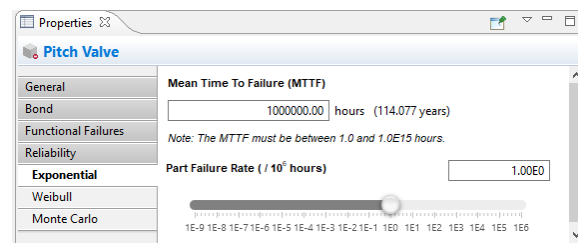
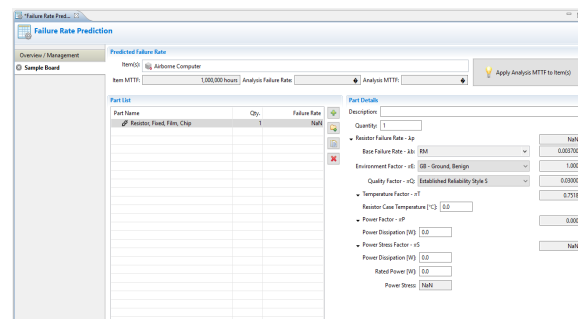

Figure B15: Item properties window for Failure Rate setting
Figure B16: MADE Failure Rate Prediction Window
- 1) Add reliability quantification/distribution parameters to the properties of each element of the model as appropriate using the RMA module's *Reliability* interface (Figure B15). Currently, Exponential, Weibull, and Weibull (unit Life) data can be manually entered, or the "Failure Rate Prediction" option under the "Analyses" menu can be used. The latter requires naming of the analysis, selection of the item, and the addition of a complete parts list for the item/component being evaluated to the *Parts List* section of Figure B16. And when the calculation is completed, the modeler should use the "Apply Analysis MTTF to Item(s)" button so that the calculation is automatically applied to the properties of the item being evaluated (Figure B15).